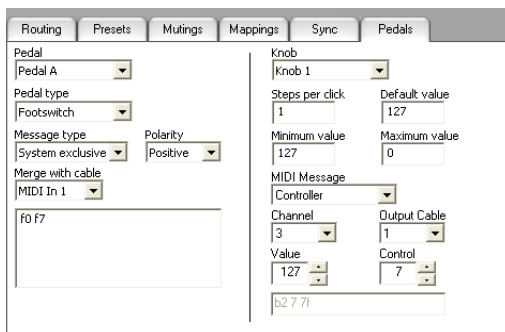

Figure 19: The Pedals tab lets you program the MIDI Timepiece AV’s front-panel knobs and its two pedal inputs.
- 4 Choose the pedal or knob that you want to set up from the menus at the top of the tab, as shown below in Figure 19: